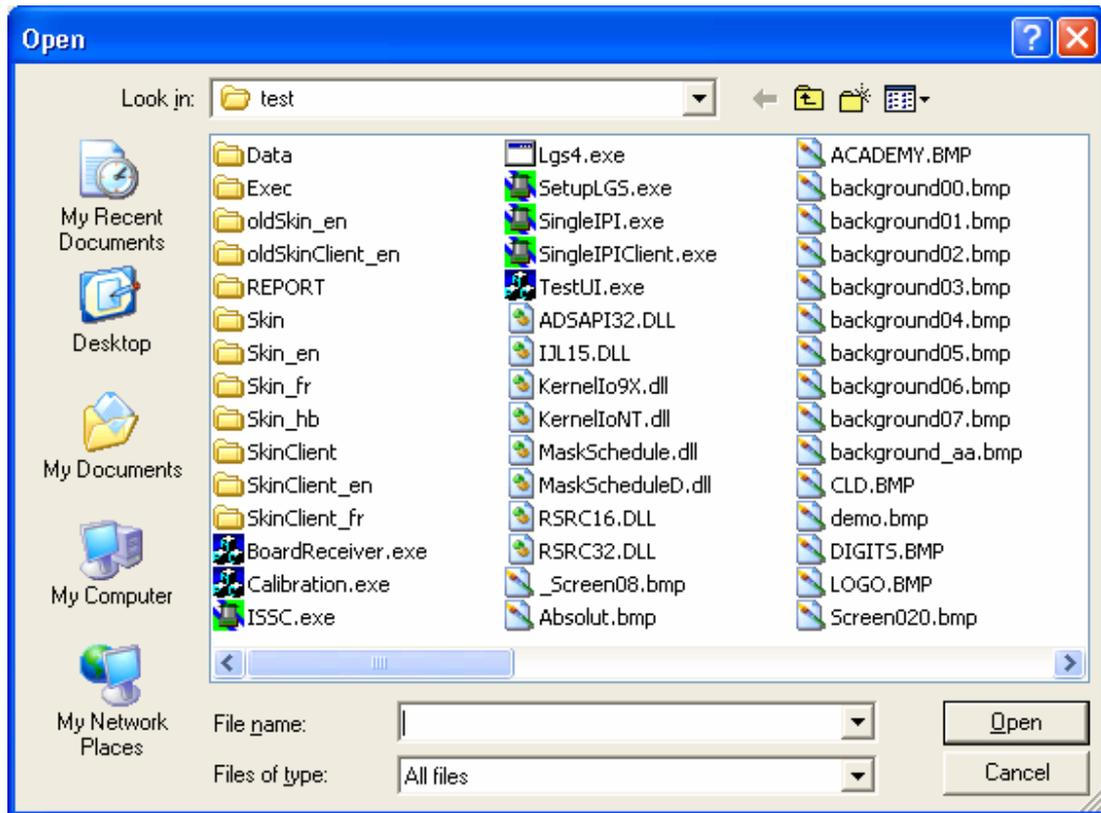

Figure 4-6: Open window in Laser sensor (setup)
- (2) Edit the parameters in their boxes. Most of them are self-explanatory, but it is recommended to consult a service person. To send the new parameters to the Laser sensor press Send (at the bottom).
- (3) To copy files from the PC to the Laser sensor computer press the Add button. This opens a regular open window (See Figure 4-6).